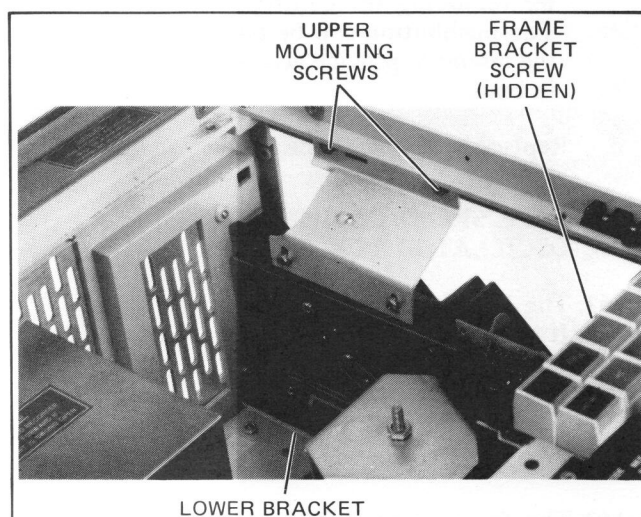

Figure 5-62. Motor Driver/ +5V(A) Regulator Removal
- d. Remove the two upper mounting screws as identified in Figure 5-62.
- f. Remove the lower bracket (see Figure 5-62).